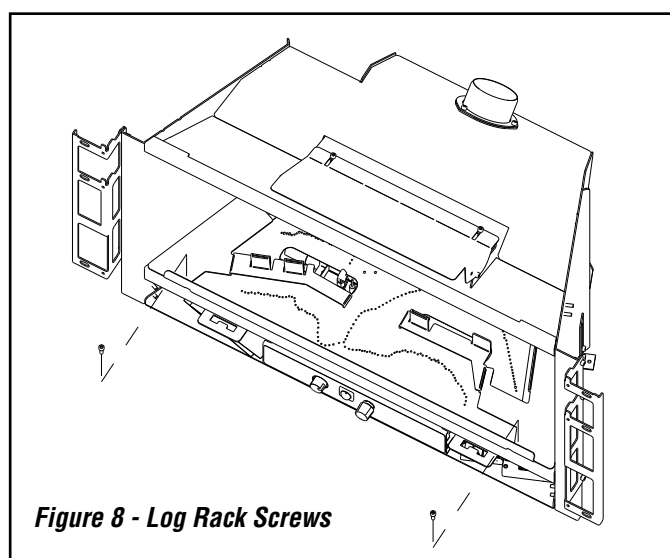

Figure 8 - Log Rack Screws
1. Remove the log rack (2 screws) and install the rear log on the retainer. See **Figures 8 and 9.**